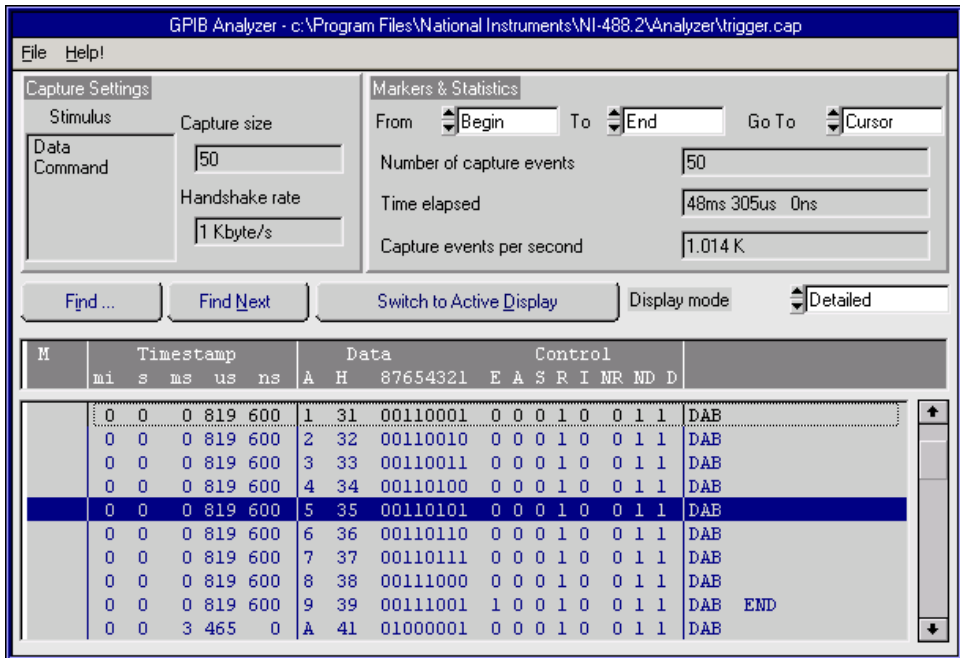

Figure 4-7. Capture Display Window
16. The first character of the matched search string, “5,” will be highlighted as shown in Figure 4-7.